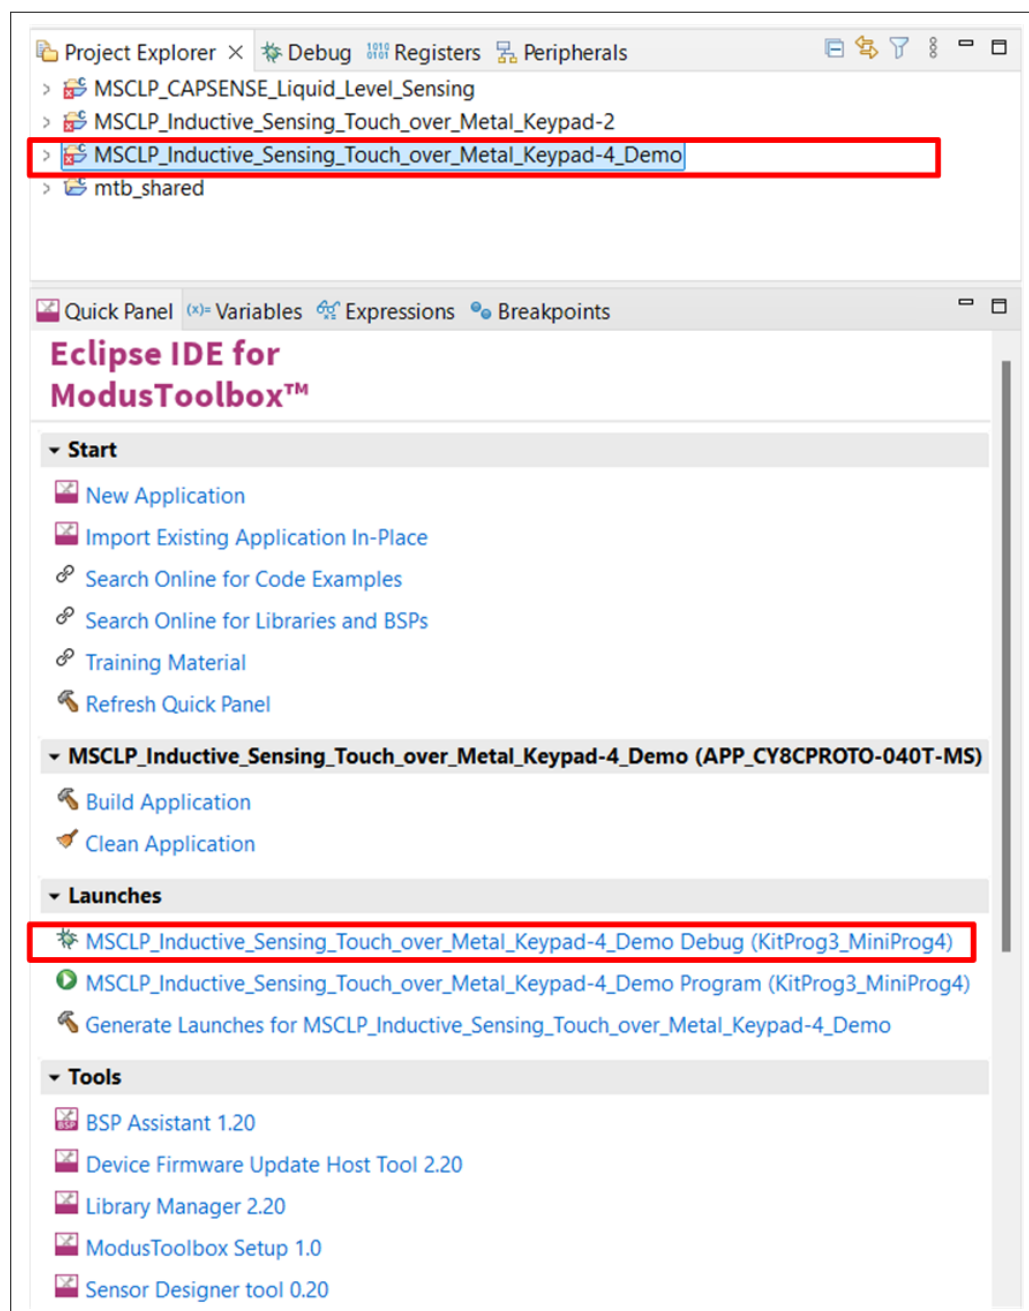

Figure 17 Debugging the code example
- b. In the **Quick Panel**, scroll to the **Launches** section, and click the **<App_Name> Debug (KitProg3_MiniProg4)** configuration, as shown in Figure 17